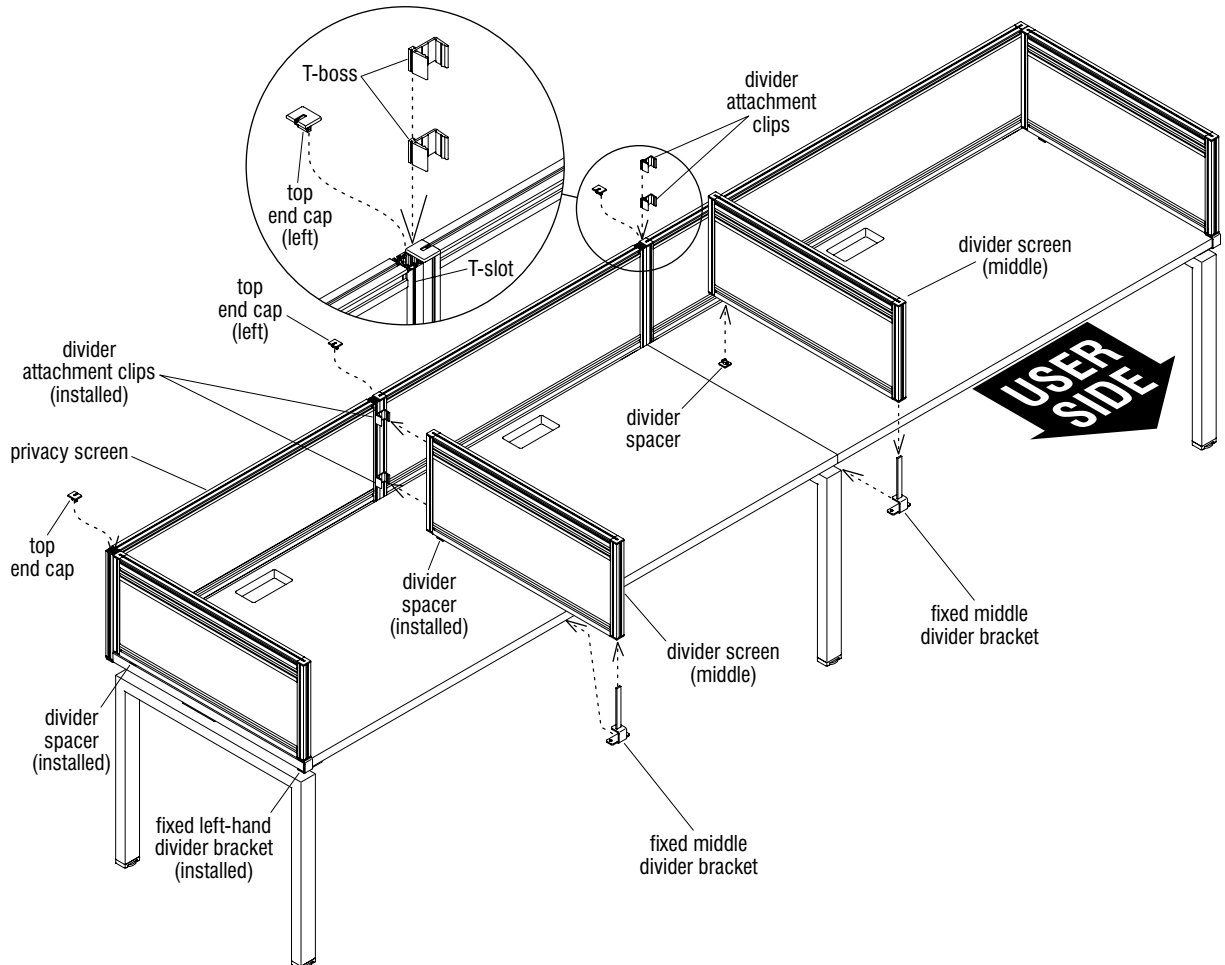

Figure 39 - Single-Sided Fixed Benching, Middle Divider Screen Installation
- At each union of privacy screens to receive middle divider screens, correctly orient and slide the T-boss of two divider attachment clips down the T-slot (where top cap was removed) and into position with one above the other as illustrated (Figure 39).
- Locate and orient a “fixed middle divider bracket” as shown and slide the bayonette into the hole at the bottom, front of the middle divider screen. Next, locate a “divider spacer”, position it into the horizontal T-slot at the underside of the divider screen near the back and twist the spacer 90° to lock it in position (Figure 39).
- Repeat the process for all middle divider screens to be installed, then re-install all top end caps that were removed. Go back and adjust all divider spacers and divider attachment clips to be uniform along the run of benching (Figure 39).